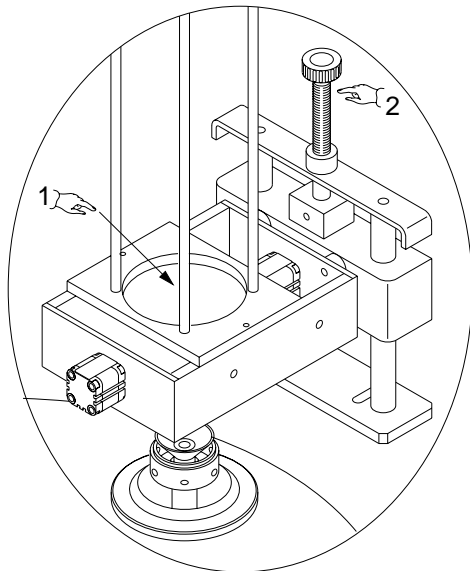

Fig. 6.12
The height and alignment with the slot are adjustable. The start and duration of the variegation is controlled by the appropriate instrument on the control panel (*Pos. 2, Fig. 6.12*). Press button “F” and then button + in sequence to increase the time, or button – to reduce it.
- Press the end of production button (*Pos. 9, Fig. 6.12*). All the operating stations in memory will stop automatically.
The function of the cup feeders (*Fig. 6.12*) mounted at the end of the machine is to deposit the cones in the slots in the lamellas. This action is synchronised with the movement of the trays.
The cup feeder consists of a magazine (*Pos. 1, Fig. 6.12*) in which cups must be placed manually, and a cup dispenser driver by pneumatic actuators.
- adjustment of the height of the magazine support frame, in that the travel of the suction cup carriage is fixed, and as a result, the height of the magazines must be altered to move the bottom of the ice cream cup nearer to the suction cup by adjusting the screw (*Pos. 2, Fig. 6.12*);